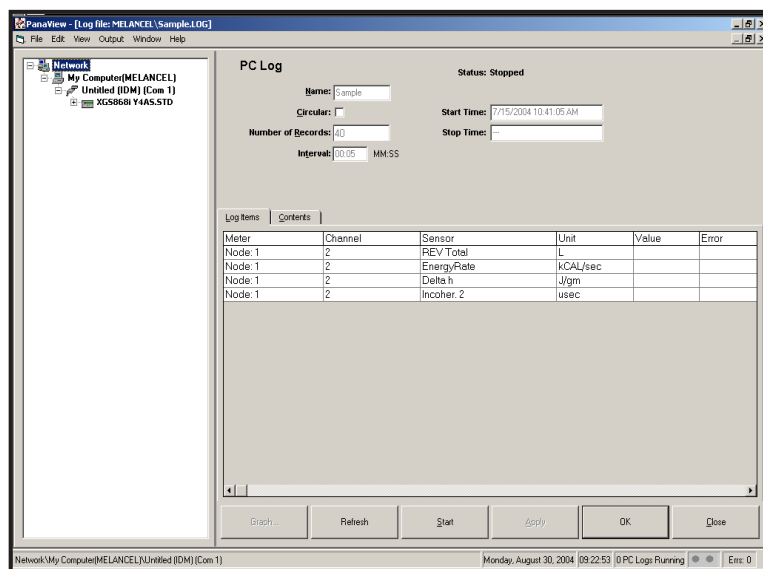

Figure 18: The PC Log Window
6. At the resulting *PC Log* window shown in Figure 18, place a check mark in the text box to create a *circular log*, or leave this box empty to create a linear log.
7. Enter a sampling *interval* in the text box shown in Figure 18.